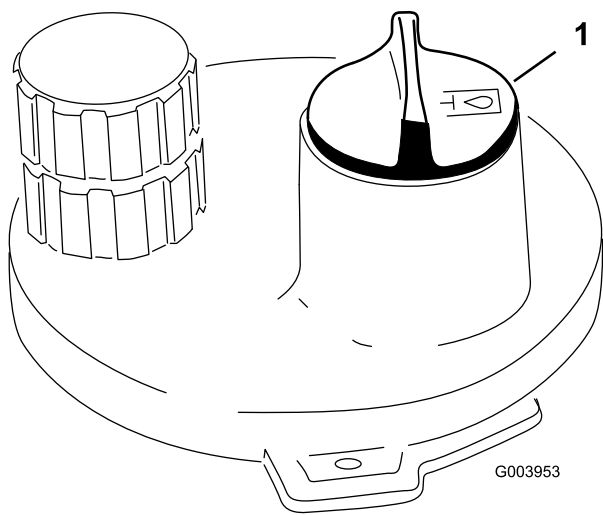

Figure 36
3. Clean area around filler neck and cap of hydraulic tank (Figure 36). Remove cap from filler neck.